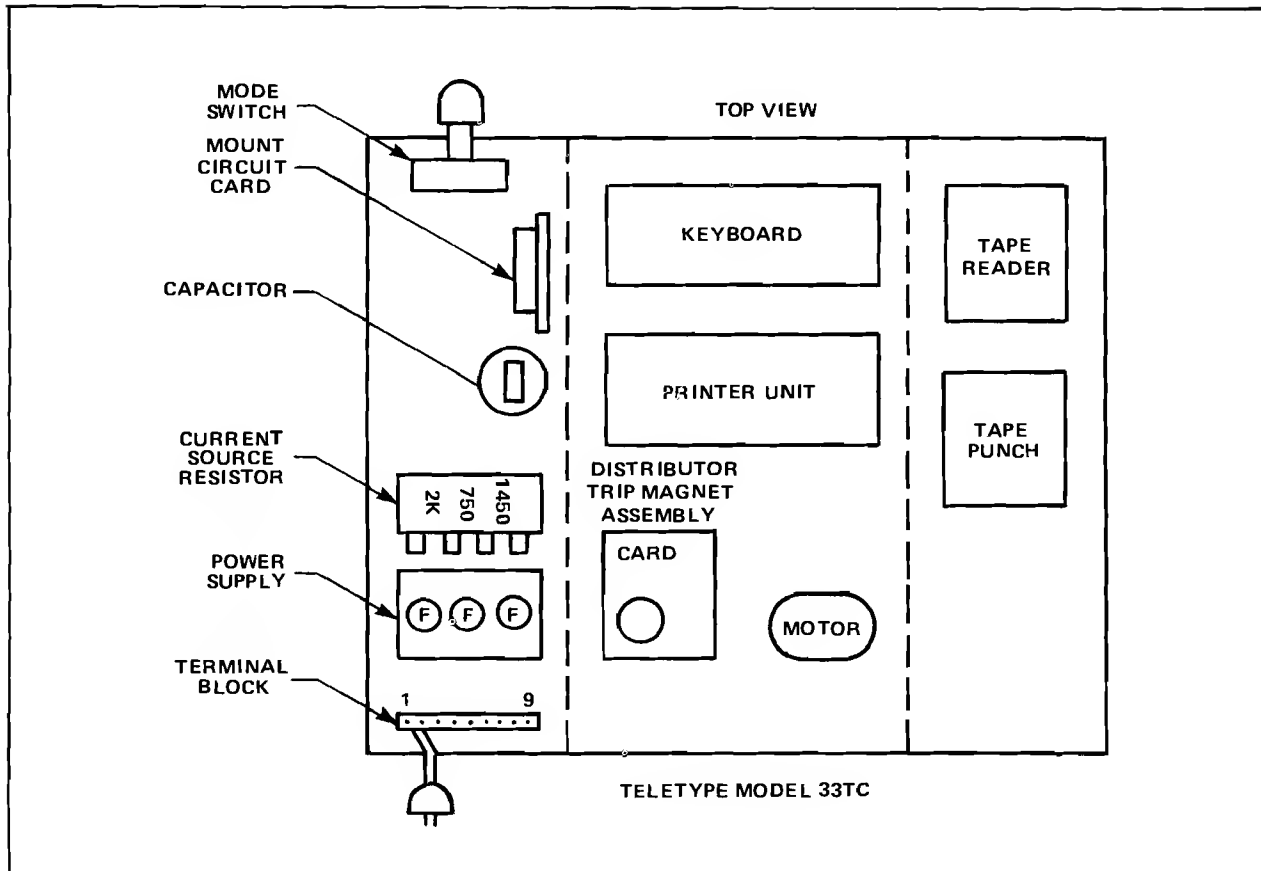

Figure B-1. Teletype Component Layout
- a. Remove blue lead from 750-ohm tap on current source resistor, reconnect this lead to 1450-ohm tap. (Refer to figures B-1 and B-2.)
- b. On terminal block, change two wires as follows to create an internal full-duplex loop (refer to figures B-1 and B-3):